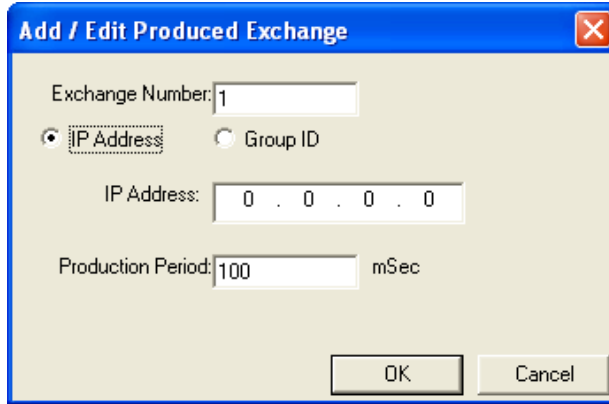

Figure 6.8– Creating Produced Exchange 1 - Node 1
2. Click on the **Config** button next to the **EGD (Ethernet Global Data)** checkbox to open the Ethernet Global Data Configuration dialog (Figure 6.1 [page 32]) and click on the **Add Exch** button to create a Produced Exchange. Then, fill in the parameters for Node 1, as shown in Figure 6.8 below, and click **OK**.